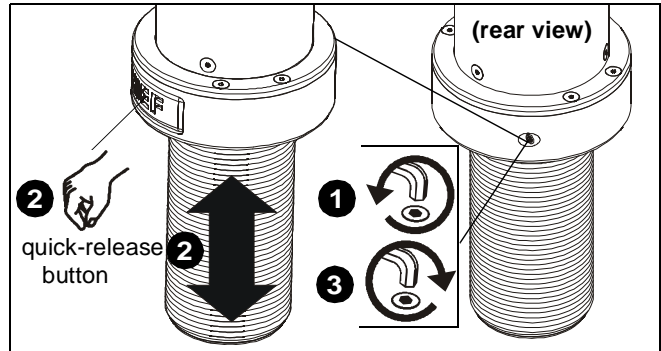

Figure 5
1. Loosen locking set screw with 5/64" hex key (C) to release quick-release button adjustment mechanism. (See Figure 5)
2. Press quick-release button and adjust height to desired level. (See Figure 5)
3. Tighten locking set screw with 5/64" hex key (C) to lock mount in its current position. (See Figure 5)